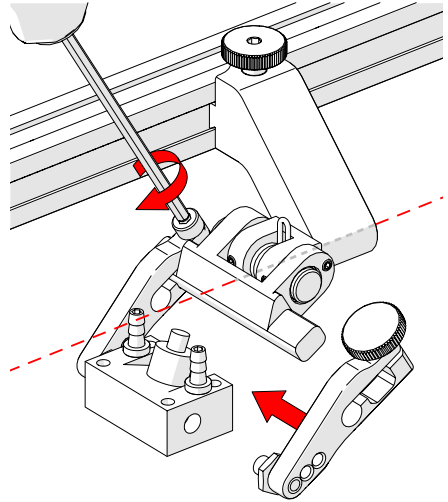

Fig. 33 - Place wedge and outer arm
TIP: The probe holder yoke can accommodate different probe and wedge sizes of varying widths. It is best to centre the wedge with the yoke's pivot axis to reduce wedge tipping when scanning. Position the inner probe holder arm accordingly with the centre of the yoke (Fig. 33).
6. Position the wedge on the inner probe holder arm (Fig. 33).
7. Slide outer probe holder arm along the yoke pinching the wedge in place (Fig. 33).